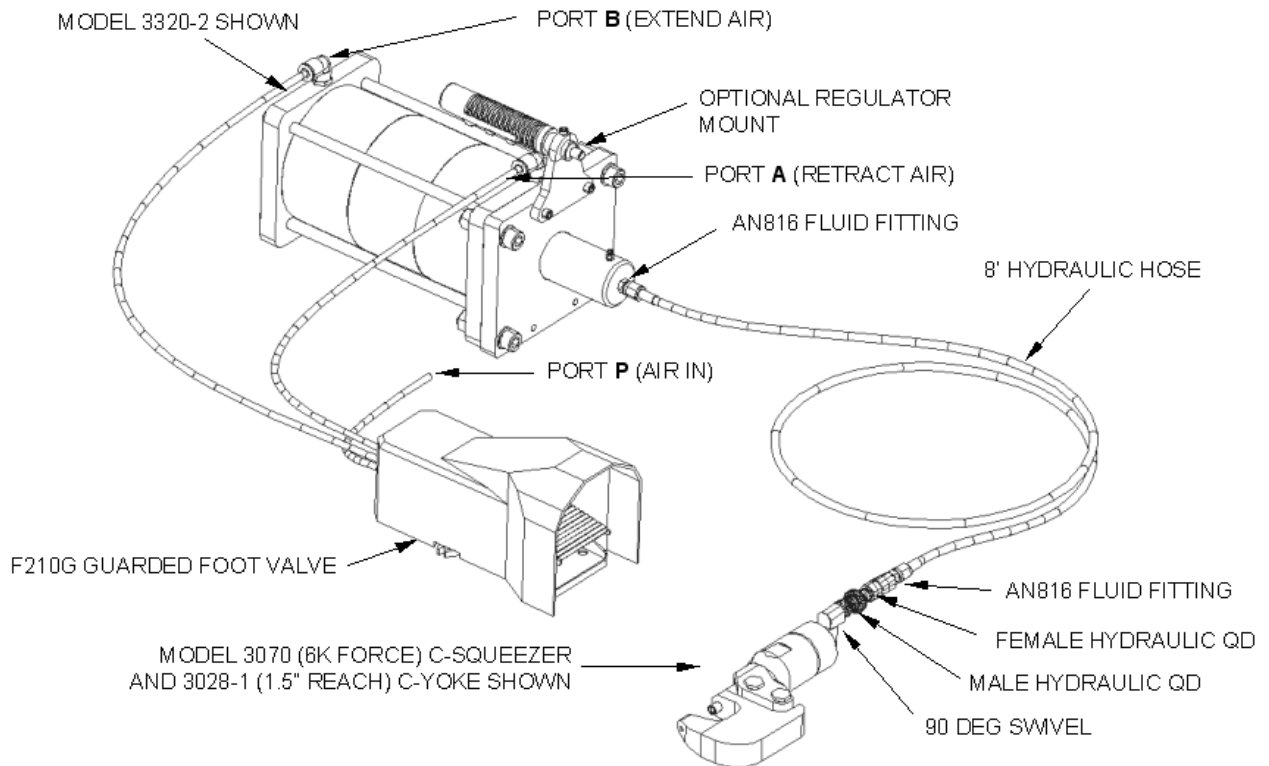

FIGURE 4 - C-SQUEEZER SYSTEM
- 4.4 Referring to Figure 4, attach the hydraulic hose (normally 6-8' in length) to the intensifier, at the AN816 fitting.